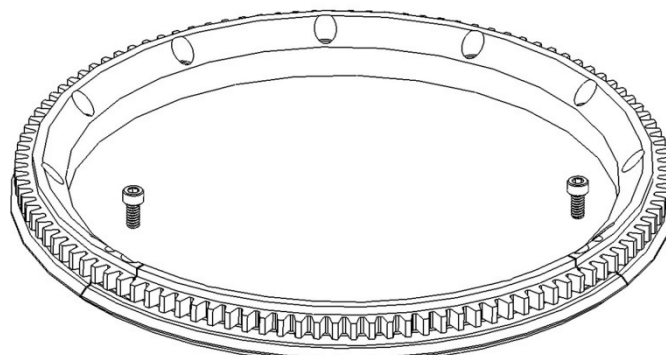

Figure 2 - Main Gear Hex Screws
1. Remove 2 hex screws from the Smaller section of the Main Gear as shown in Figure 2.